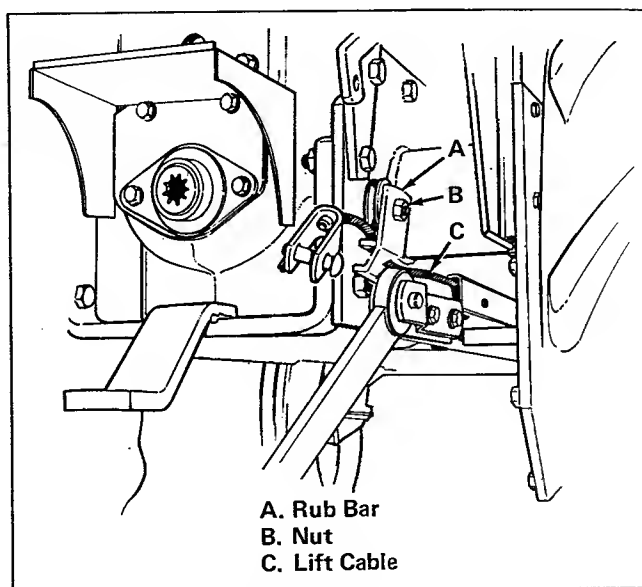

Figure 9. New Rub Bar Assembly
15. Install new right-hand rub bar (item A, figure 9) with hex nut (item B). Be sure the lift